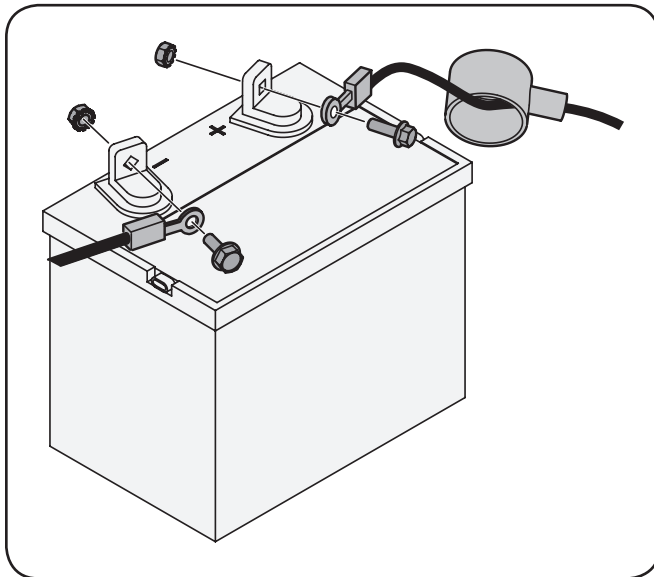

Figure 3-7
1. Remove the plastic cover, if present, from the positive battery terminal and attach the red cable to the positive battery terminal (+) with the bolt and hex nut. See Fig. 3-7.
2. Remove the plastic cover, if present, from the negative battery terminal and attach the black cable to the negative battery terminal (-) with the bolt and hex nut. See Fig. 3-7.